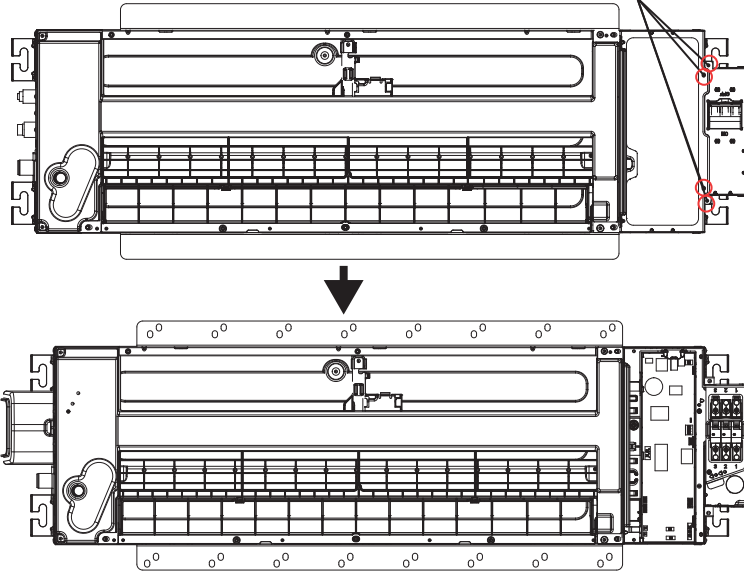

Fig. 5.8
1. Remove the four screws shown in the image below. Removing these will allow you to open and access the indoor control box and circuit breaker box (See Fig. 5.8).